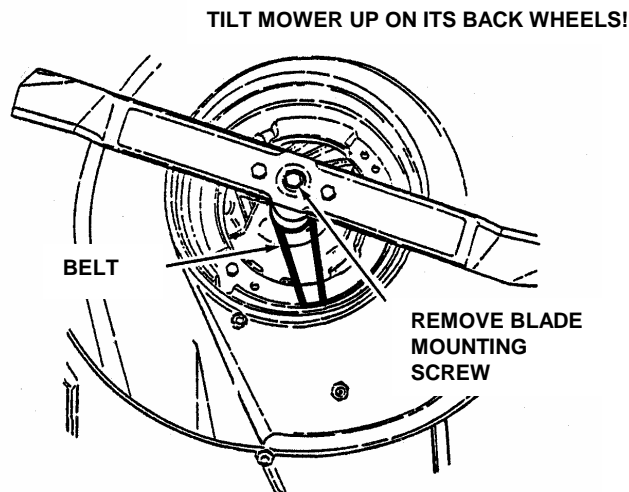

FIGURE 4.7
5. Remove the retaining bolt that secures the blade. Remove blade. See Figures 4.7.